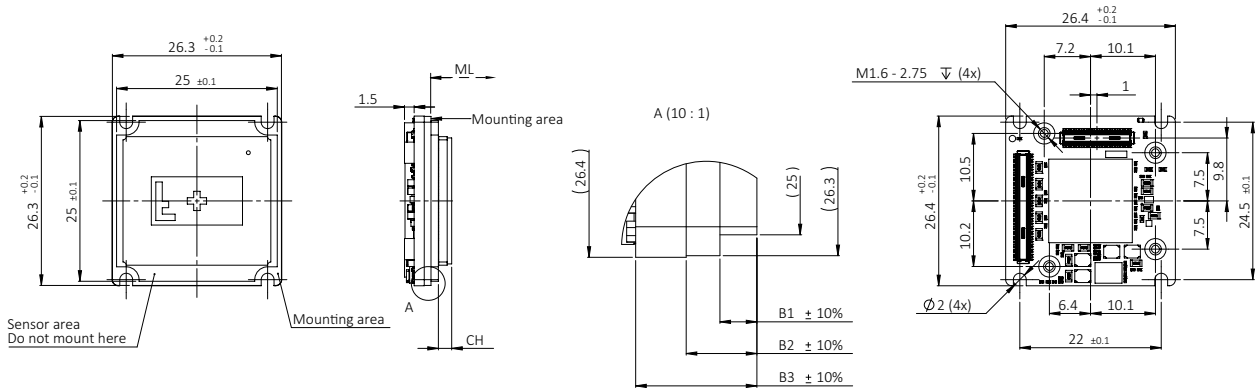

Figure 49: Alvium G1 BL No Mount dimensions
Dimensions that are common between different models are shown in Figure 49, model specific dimensions are listed in Table 74. **Mechanical length (ML)** defines the mechanical distance from the mounting area to the lens mount front flange, without optical filter. **Components height (CH)** relates to the electronic components with maximum height, sometimes the sensor.